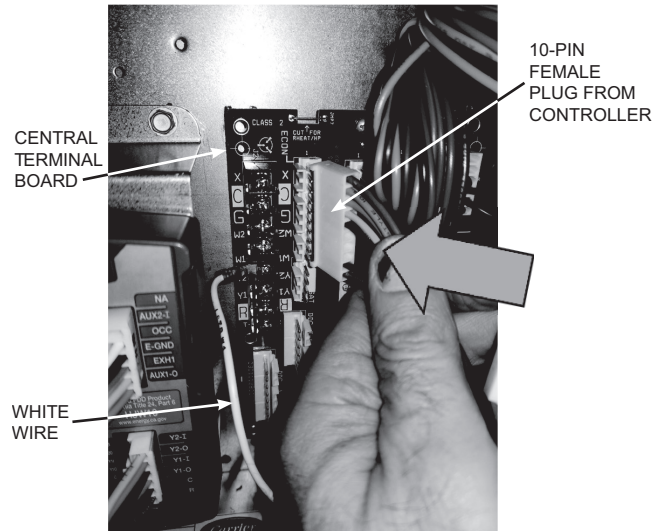

Fig. 10 — Connect 10-Pin Jade Plug to Central Terminal Board
13. Connect the 10-pin female plug from the Jade controller harness to ECON on the CTB. See Fig. 10 and page 9.
14. Connect the White wire from the Jade controller harness to the W1 terminal on the CTB. See Fig. 10 and page 9.